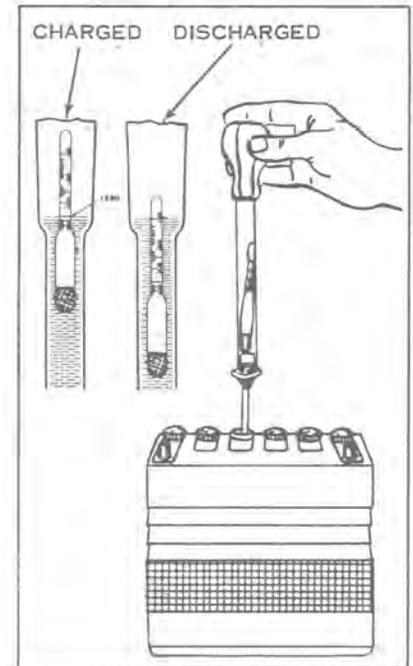

Figure 7-33
4. Keep the battery nearly fully charged at all times. Check the state of charge at frequent intervals by making specific gravity readings with a battery hydrometer (see Figure 7-33). Note that a hydrometer reading is not accurate if water has been added recently, due to the fact that the water may not be mixed with the electrolyte.